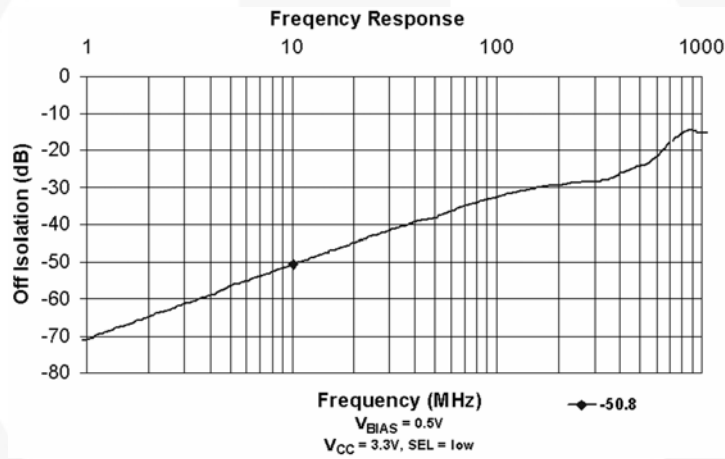

Figure 13. Off Isolation
| $O_{IRR}$ | Off Isolation (5)(nA)                     | $R_L = 50\Omega$ , $f = 25MHz$ , $C_L = 30pF$Figure 9, Figure 13     | 2.7 to 3.6   |  | -45  |      | dB    |